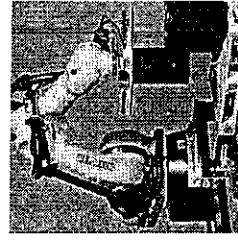

Figure 3:
- (d) For a large industrial robot shown in the Figure 3 above which is deployed, for example, in factories carrying out heavy lifting or car manufacturing, explain how the three stages in the safety rule, may be implemented. (3 marks)